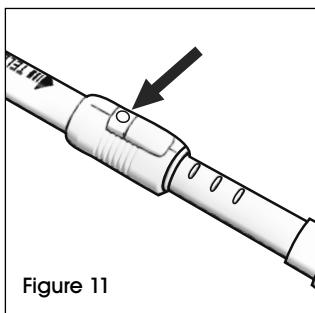

Figure 11
- To extend the cleaning reach of the wand, push the dark gray button nearest the handle, and pull down on the outer wand section. Reverse the process before returning the wand to the storage position. (See Figure 11)